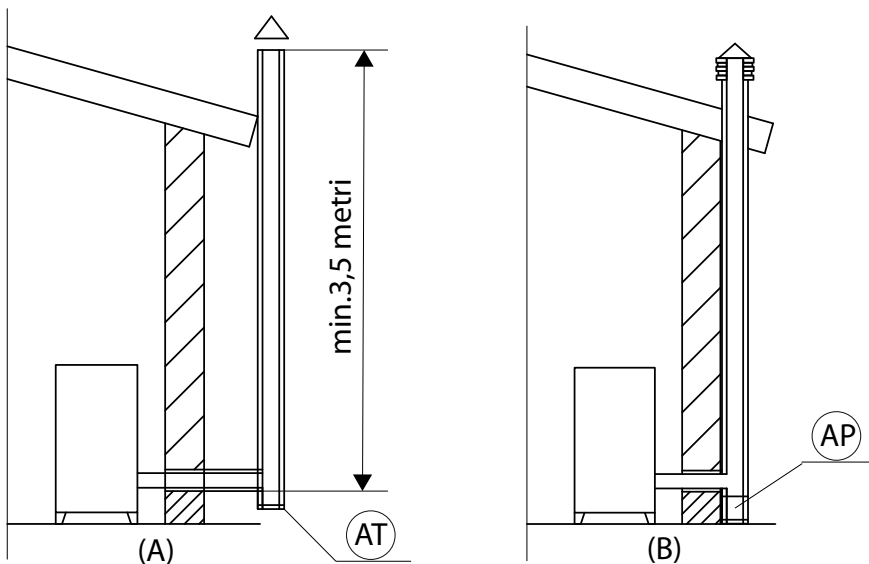

FIGURE 1 - FLUE
A simple air shaft made of cement must be suitably piped. In both solutions there must be an inspection cap (AT) and/or inspection access panel (AP) - FIG.1.